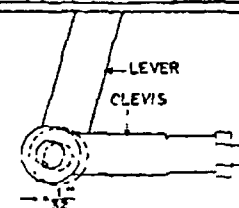

Fig. 2
4. Reconnect brake pull rods to take out ALL back lash and lost motion. It is recommended that the length of the brake pull rods be $\frac{1}{32}$ " less than the actual distance between cross shaft levers and brake cam lever. (See Fig. 2.) This slightly preloads the system and prevents lost pedal motion. Check each wheel separately. If any wheel drags excessively, it indicates that the rod has been shortened too much.